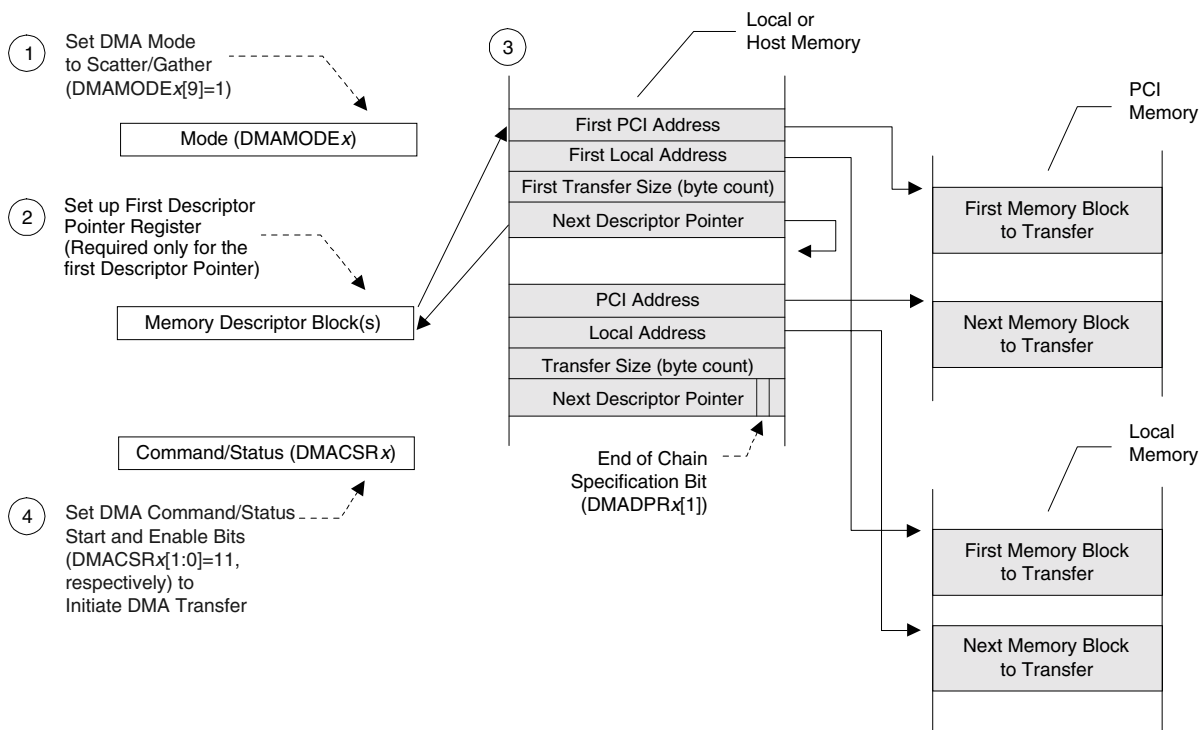

Figure 5-17. DMA Scatter/Gather Mode Descriptor Initialization [PCI SAC/DAC PCI Address (DMADACx) Register Dependent]
- DMADACx contain(s) a non-zero value. DMAMODEx[18] is set to 0. The PCI 9656 performs a Single Address Cycle (SAC) 4-Lword descriptor block load from PCI memory and DMA transfer with DAC on the PCI Bus. (Refer to Figure 5-17.) The DMA descriptor block starting addresses should be 16-byte-aligned.